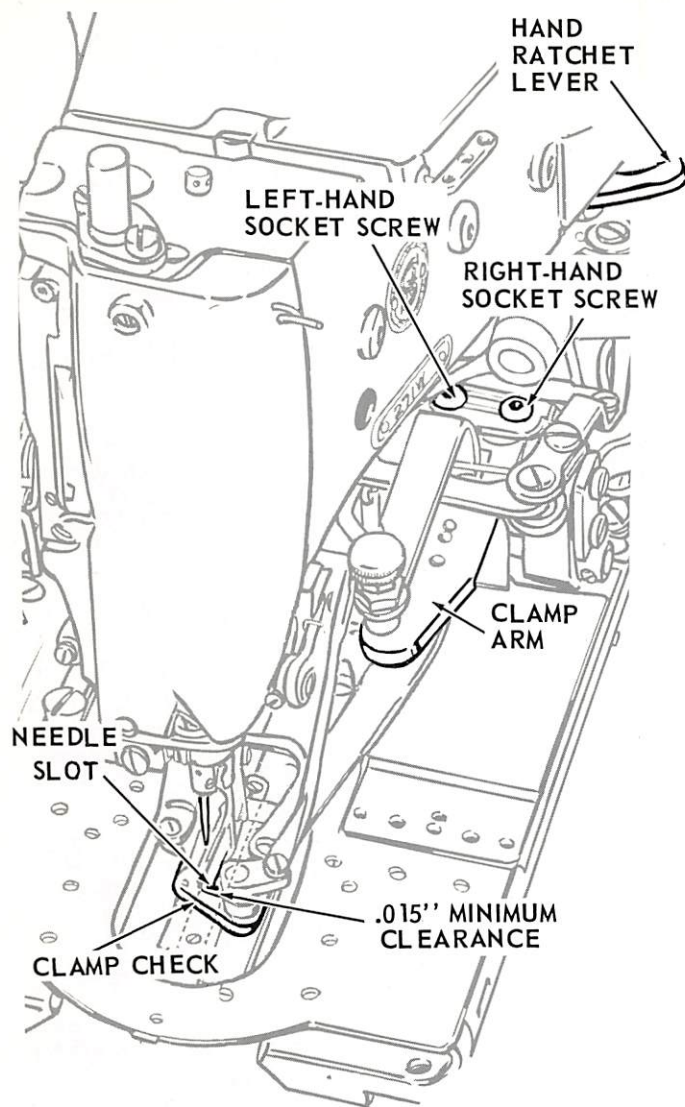

Fig. 70. Clamp Check Clearance
2. Loosen only the right-hand socket screw shown in Fig. 70.
5. Bring needle to lowest position and move clamp-check as required to obtain .015 inch minimum clearance in front of needle as shown in Fig. 70. Use more clearance if such is necessary to avoid overlapping needle slot.